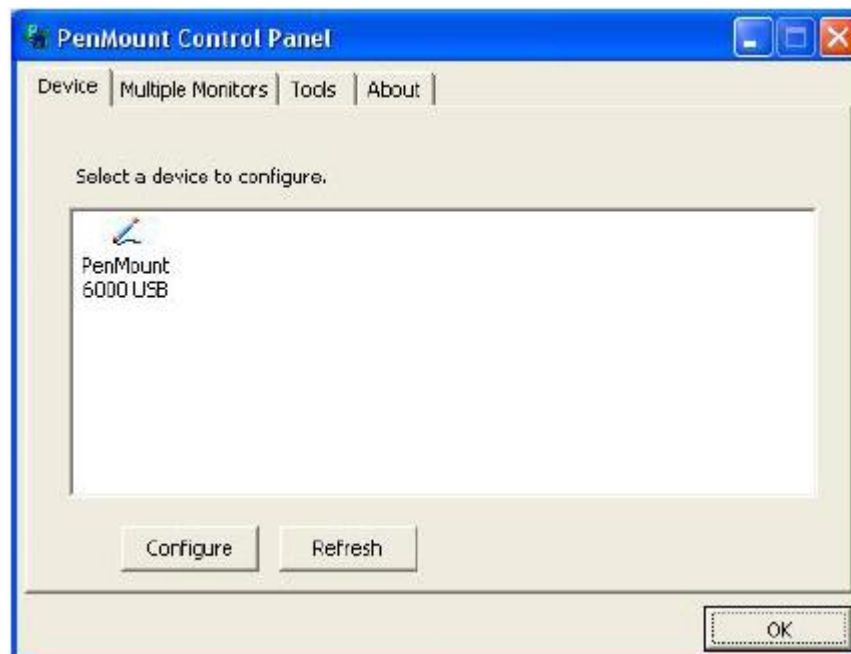

Figure 4-9: Configuration Screen
Step 6: The configuration screen in **Figure 4-9** appears.
Step 7: Double click the PenMount 6000 icon as shown in **Figure 4-9**.